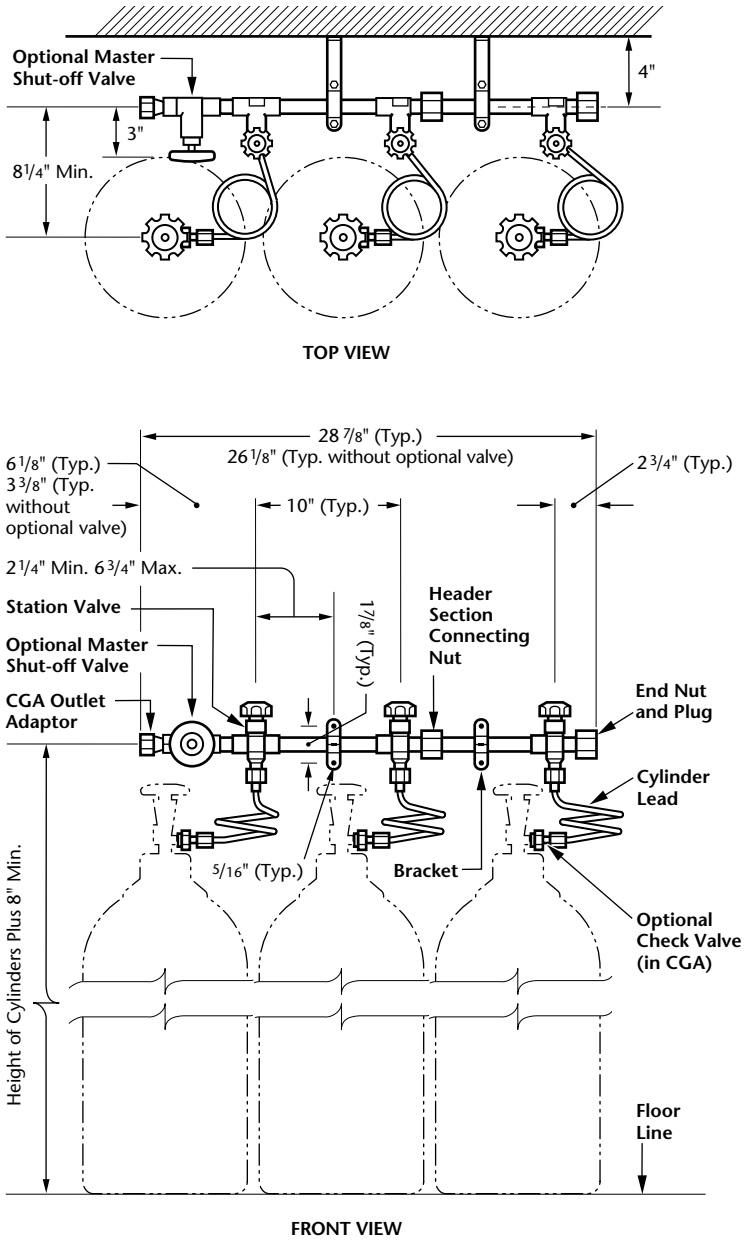

Figure 3 – Typical Installation of Single Row Manifold used on the Right Side of a Semi-Automatic Changeover System
5. Securely mount the two manifolds on a wall. Mounting dimensions for single-row manifolds are shown in Figure 3 (page 7).